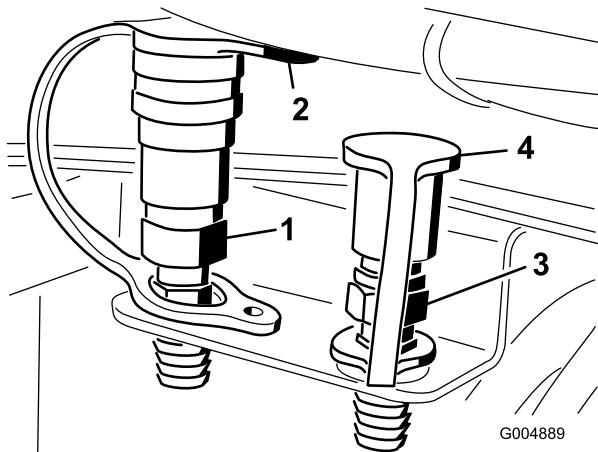

Figure 16
- 10. Install a dust plug onto the quick disconnect coupler and insert the barbed end of the coupler into the outer (left) hole in the bulkhead bracket (Figure 16).
11. Install a dust cap to a nipple coupler and insert the barbed end of the coupler into the inner hole in the bulkhead bracket (Figure 16).